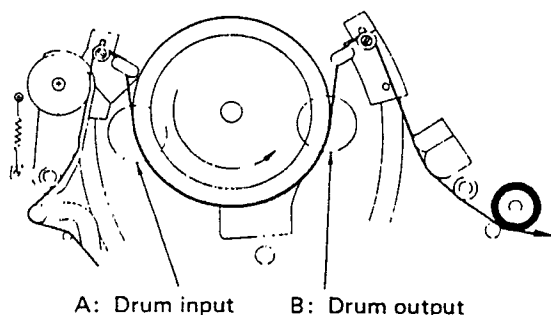
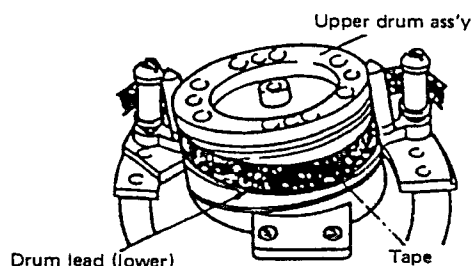

Fig. 21 Tape transport check
Fig. 22 Drum lead check - 1
2. During Play mode, observe tape at the input and output portions (A and B in Fig. 21) of the head drum lead. Confirm that the tape slips neither upward nor downward with respect to the lead as shown in Fig. 22.